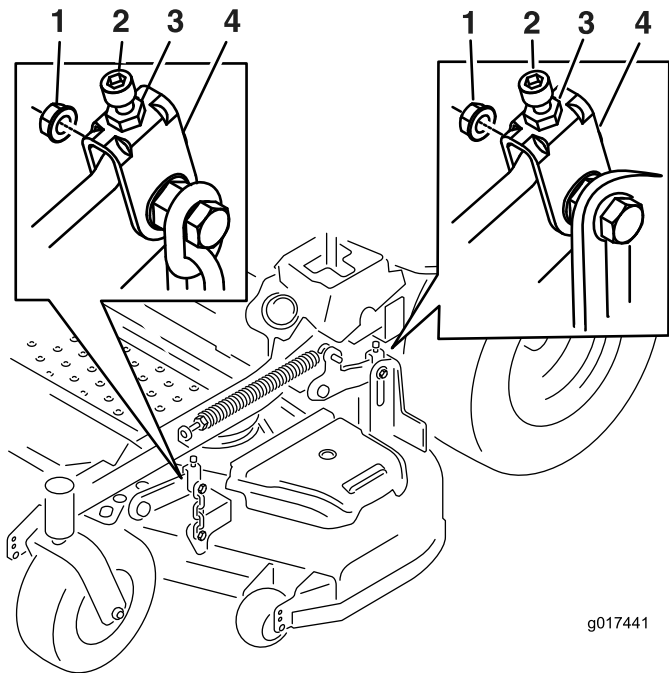

Figure 78
10. If needed, loosen the whizlock nut on the side of the yoke and the jam nut on top (Figure 78).
- Fine-tune the screw adjuster by turning it to get 8.3 mm (3-1/4 inches) height (Figure 78).